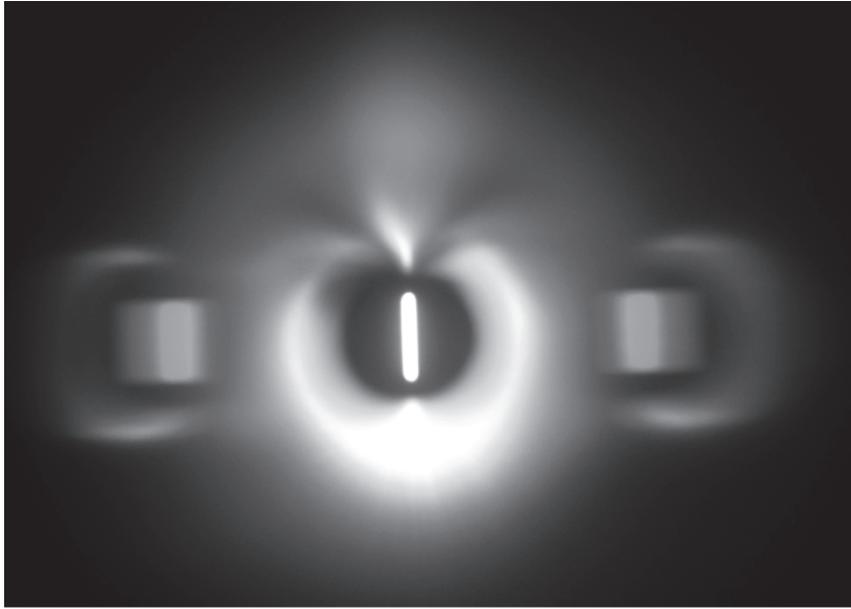

Figure 16 – Fluorescent Light Spectra
- a. Fluorescent Light (See Figure 16.)